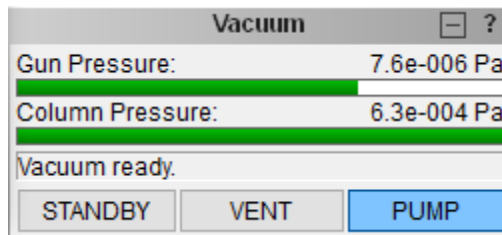

Figure 3. Vacuum control panel. Gun and column are in an operational state.
5. Click on the **PUMP** button in the VACUUM window (Fig. 3).